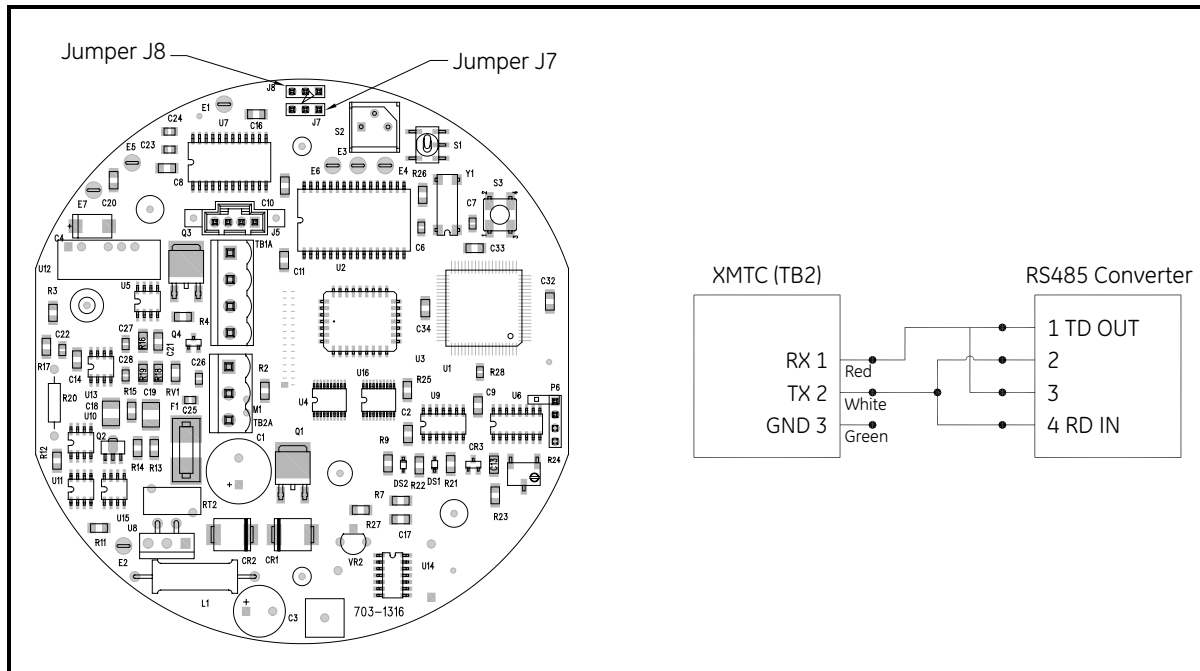

Figure 8: Jumper Locations and RS485 Connections
- a. Locate the jumpers J7 and J8 on the main PCB, using *Figure 8* below as a guide. Move the jumpers from the left (RS232) side to the right (RS485) side.
- b. Connect the other end of the cable to the RS485 converter, as shown in *Figure 8* below.